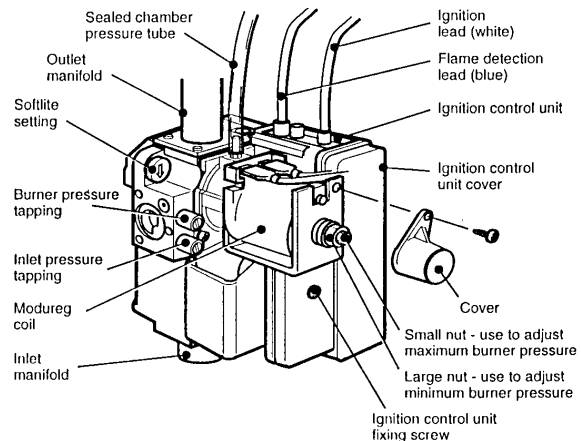

Fig. 20
9.7 GAS VALVE (See Fig. 20)
Check the Softlite setting (see Fig. 20) arrow up for Propane and Natural gas.
Turn the minimum burner pressure adjustment nut (see Fig. 20) to obtain the required burner pressure (refer to section 1.2). Turn the nut clockwise to increase the pressure and then anticlockwise until the correct pressure is reached.
Turn the maximum burner pressure adjustment nut (see Fig. 20) to obtain the required burner pressure (refer to section 1.2). Turn the nut clockwise to increase the pressure and then anticlockwise until required pressure is reached.
The ignition control unit is mounted on the right hand side of the gas valve (see Fig. 20) and is connected directly to the valve via a 5-way plug. There are no servicable parts inside the plastic enclosure.